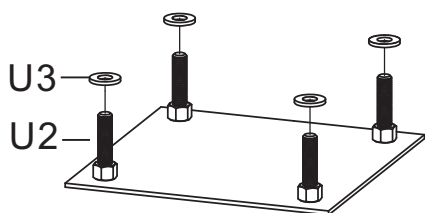

FIGURE 1A
- A. Slide a 18mm Thick Washer (U3) over each of the J-Bolts(U2) as shown in FIGURE 1A.